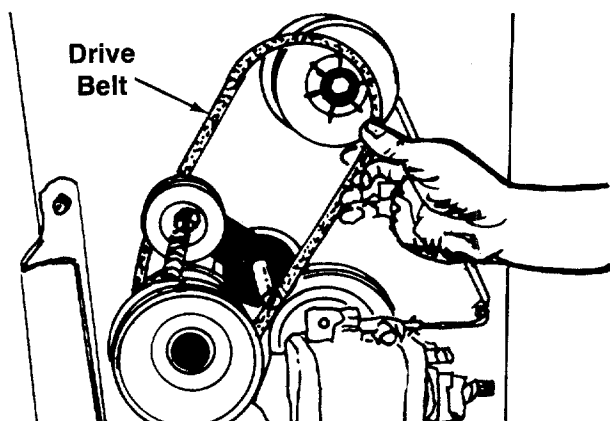

FIGURE 37.
9. Remove and replace the "V"-belt. See figure 37.